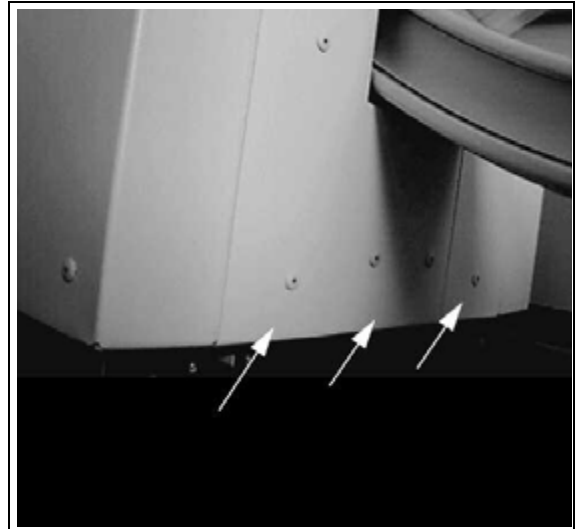

Fig. 29: Covers_B
- Remove the side and lower C-arm covers ((Fig. 29 / p. 63)).